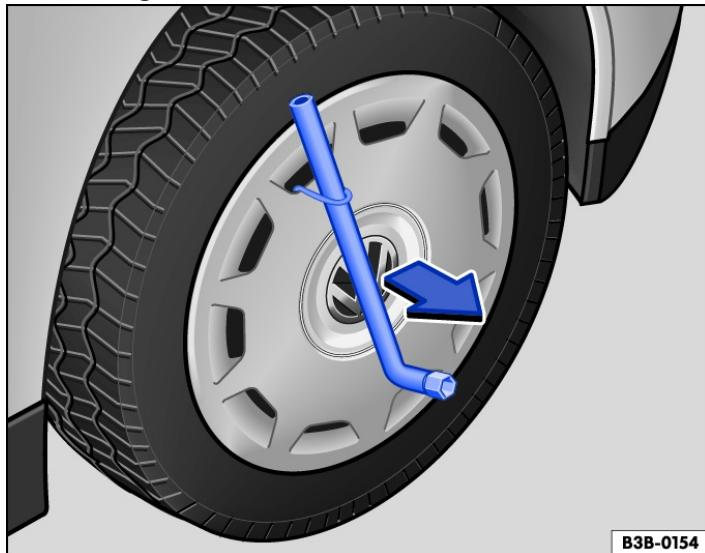

Fig. 1 Removing the wheel cover.
- Use the puller to pull off the wheel cover in the direction of the arrow. If necessary, use a box spanner to do this Fig. 1.